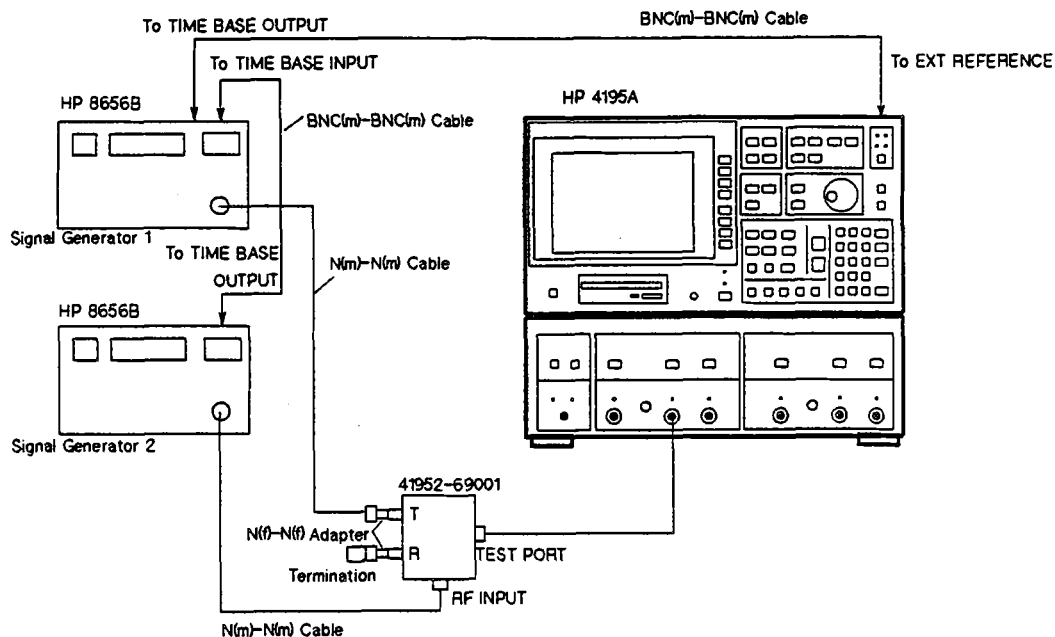

Figure 2-8. Third Order Intermodulation Distortion Test Setup
- Set up the test configuration as shown in Figure 2-8. Connect the BNC(m)-BNC(m) cable between the Signal Generator's **TIME BASE OUTPUT** connector and the HP 4195A's **EXT REFERENCE** connector.